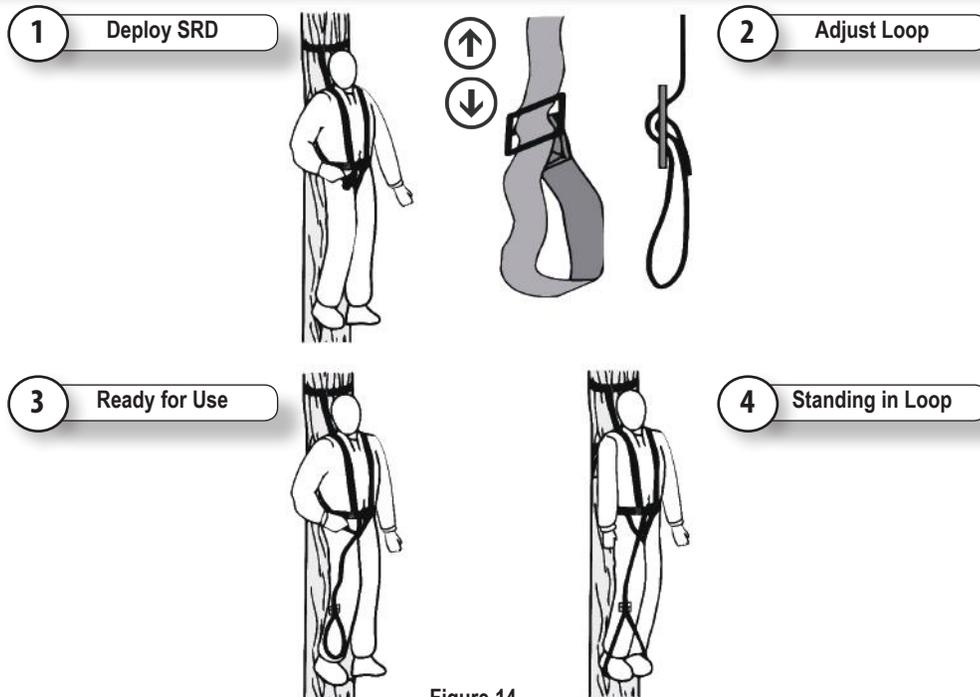

Figure 14
STEP 3: Adjust the SRD strap so you are able to step into the loop and then stand up, placing your weight in the standing loop and relieving the pressure on your lower extremities. The loop size can be adjusted by moving the buckle up or down (refer to Figure 14 for SRD operation).